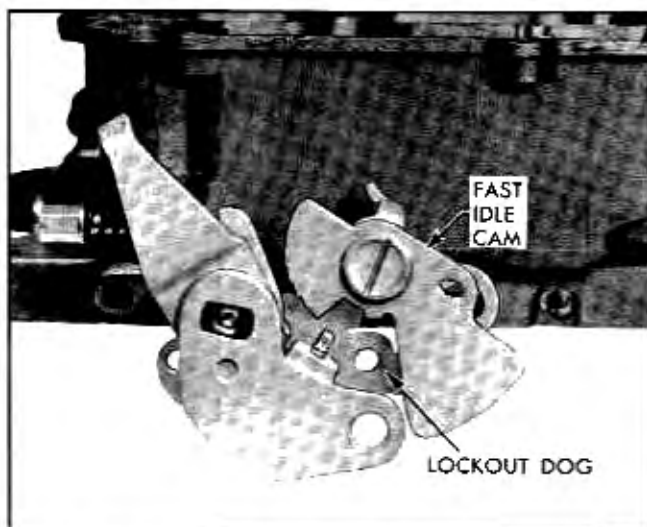

Fig. 6B-88 Lockout Dog and Fast Idle Cam Installed
12. Install lockout dog, spacer, fast idle cam and screw (Fig. 6B-88).